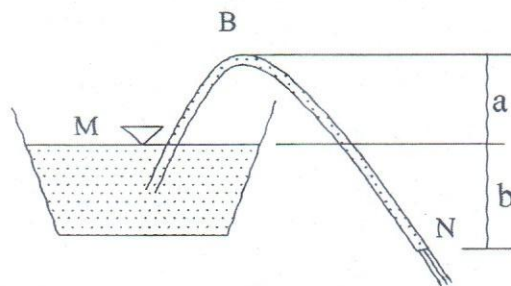

Fig.: 6
- (c) Show the relationship between absolute and gage pressure with a diagram. (03)
6. (a) Refer to Fig. 6. Find the maximum value for b if $a = 3.5 \text{ ft}$. Assume friction is negligible and the minimum pressure allowable in the siphon is a vacuum of -32.8 ft of water. (10)